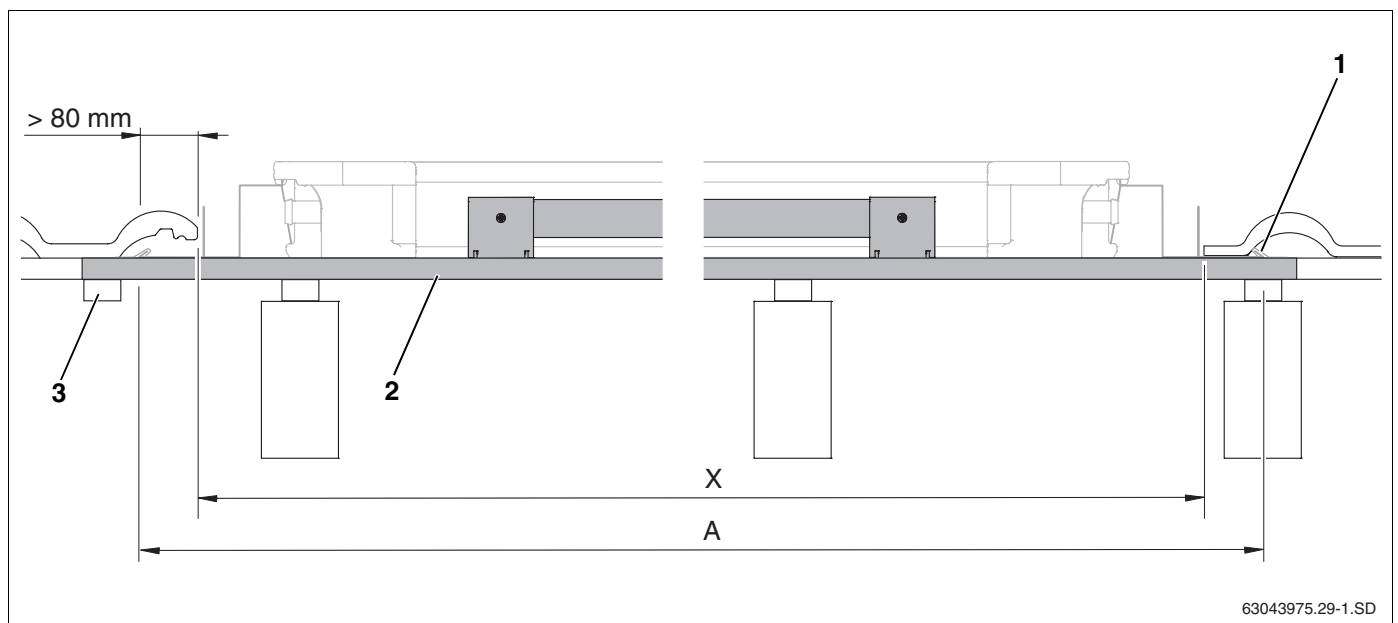
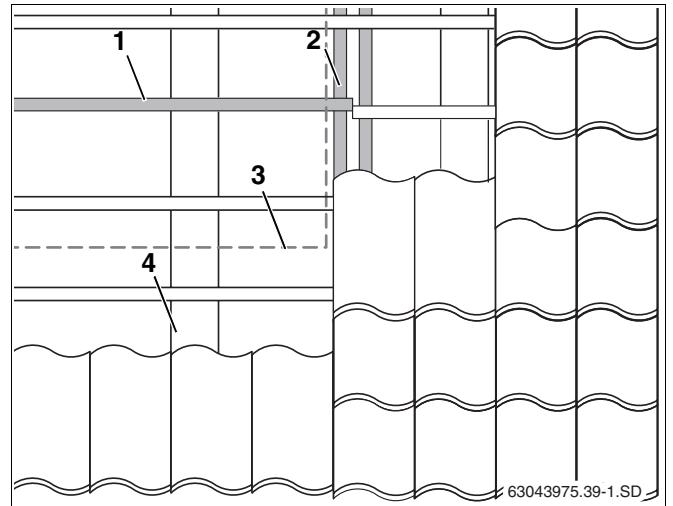

Fig. 9 Length of additional roof battens (here: first lower roof batten with anti-slip protection)
Fig. 13 Moving roof battens around the collector array area
The minimum length of additional roof battens (Fig. 9, **Item 2**) is the width of the collector array (Table 5, Page 16, dim. A) plus approx. 10 cm for the side clips (Fig. 9, **Item 1**).
- ▶ Fasten batten butt joints to the joist or ensure that they are adequately secure, e.g. by fastening them to the already existing roof battens (Fig. 9, **Item 3** and Fig. 13, **Item 2**).
If an additional roof batten (Fig. 13, **Item 1**) has to be fitted near a pre-existing one, the pre-existing one must be moved near to the collector array (Fig. 13, **Item 3**) and adequately fastened (Fig. 13, **Item 2**).